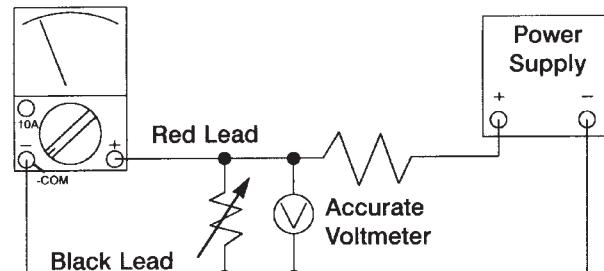

Figure 2
2. Obtain a voltage source of 0.4V as measured by an accurate voltmeter. The circuit of Figure 2 will work fine.
4. Connect the test leads as shown in Figure 2.
No DC voltage reading Refer to Figure 2 for a better understanding of how the meter works.	1. Check for open fuse. 2. Check resistors R1 - R8, R13 for correct values and good solder connections. 3. Check that the PC board is seated properly and that the three board clamps are engaged. 4. Check the meter movement. Unsolder the red wire from the meter movement to the PC board. Place a $75\text{k}\Omega$ resistor between the red wire and the positive side of a 1.5V battery. Connect the negative side of the battery to the black wire from the meter movement. The meter should read a little over half scale.